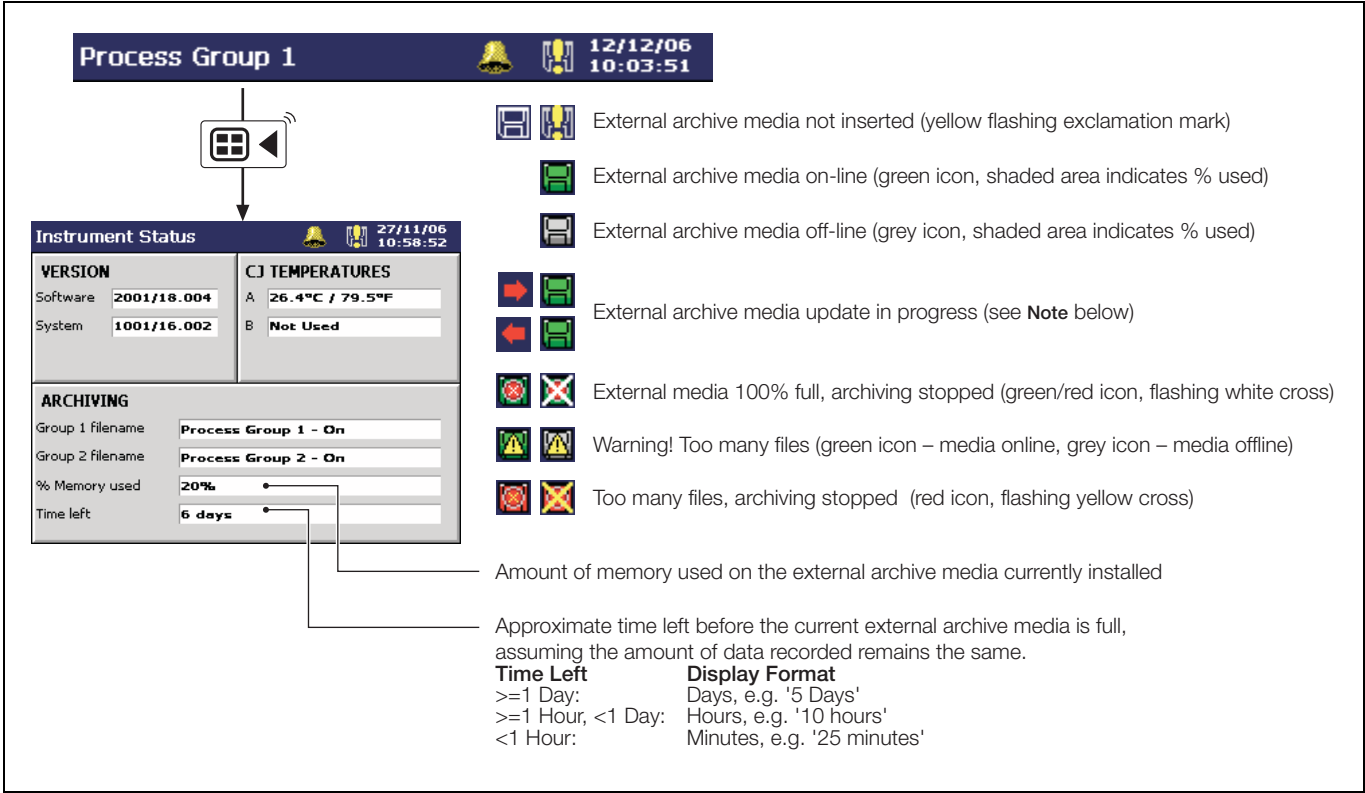

Fig. 3.3 Media Status Icons
- If 'Security System' is set to 'Advanced' and 'Setup Level Security' is set to 'On', access to the Setup Level is protected by a unique password for each authorized user. Refer to Fig. 3.3 to access the Setup Level.
3.5.2 Media Status – Fig. 3.3